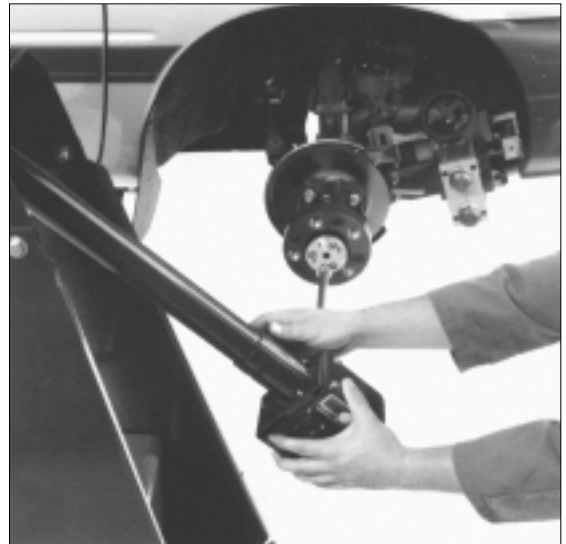

Figure 30
3. Loosen the knob securing the gearbox to the motor tube, and rotate the gearbox end drive shaft to an approximate right angle position relative to the tilt of the rotor, Fig. 30